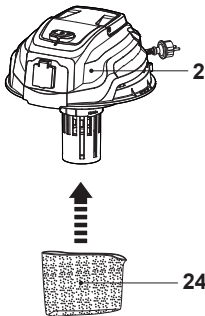
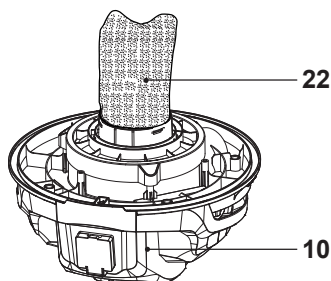

Fig. 12
Fig. 21
**NOTE:** Always ensure the cartridge filter (25) and dust bag (26) are NOT used for wet vacuuming.
- > Slide the foam sleeve (24) onto the motor unit (2) (Fig. 12). Ensure it sits properly in position. Refer to Fig. 21.
Use the foam sleeve (24) during wet vacuuming operations (Fig. 21). Operating the product without the foam sleeve (24) can damage the motor unit.
- > Inspect the foam sleeve (24) regularly. Replace it with a new one if necessary.
- > Wash the foam sleeve (24) frequently, with clear water. Do not wait until the sleeve is completely dirty. We recommend inspecting the sleeve when the product does not reach a sufficient suction power.